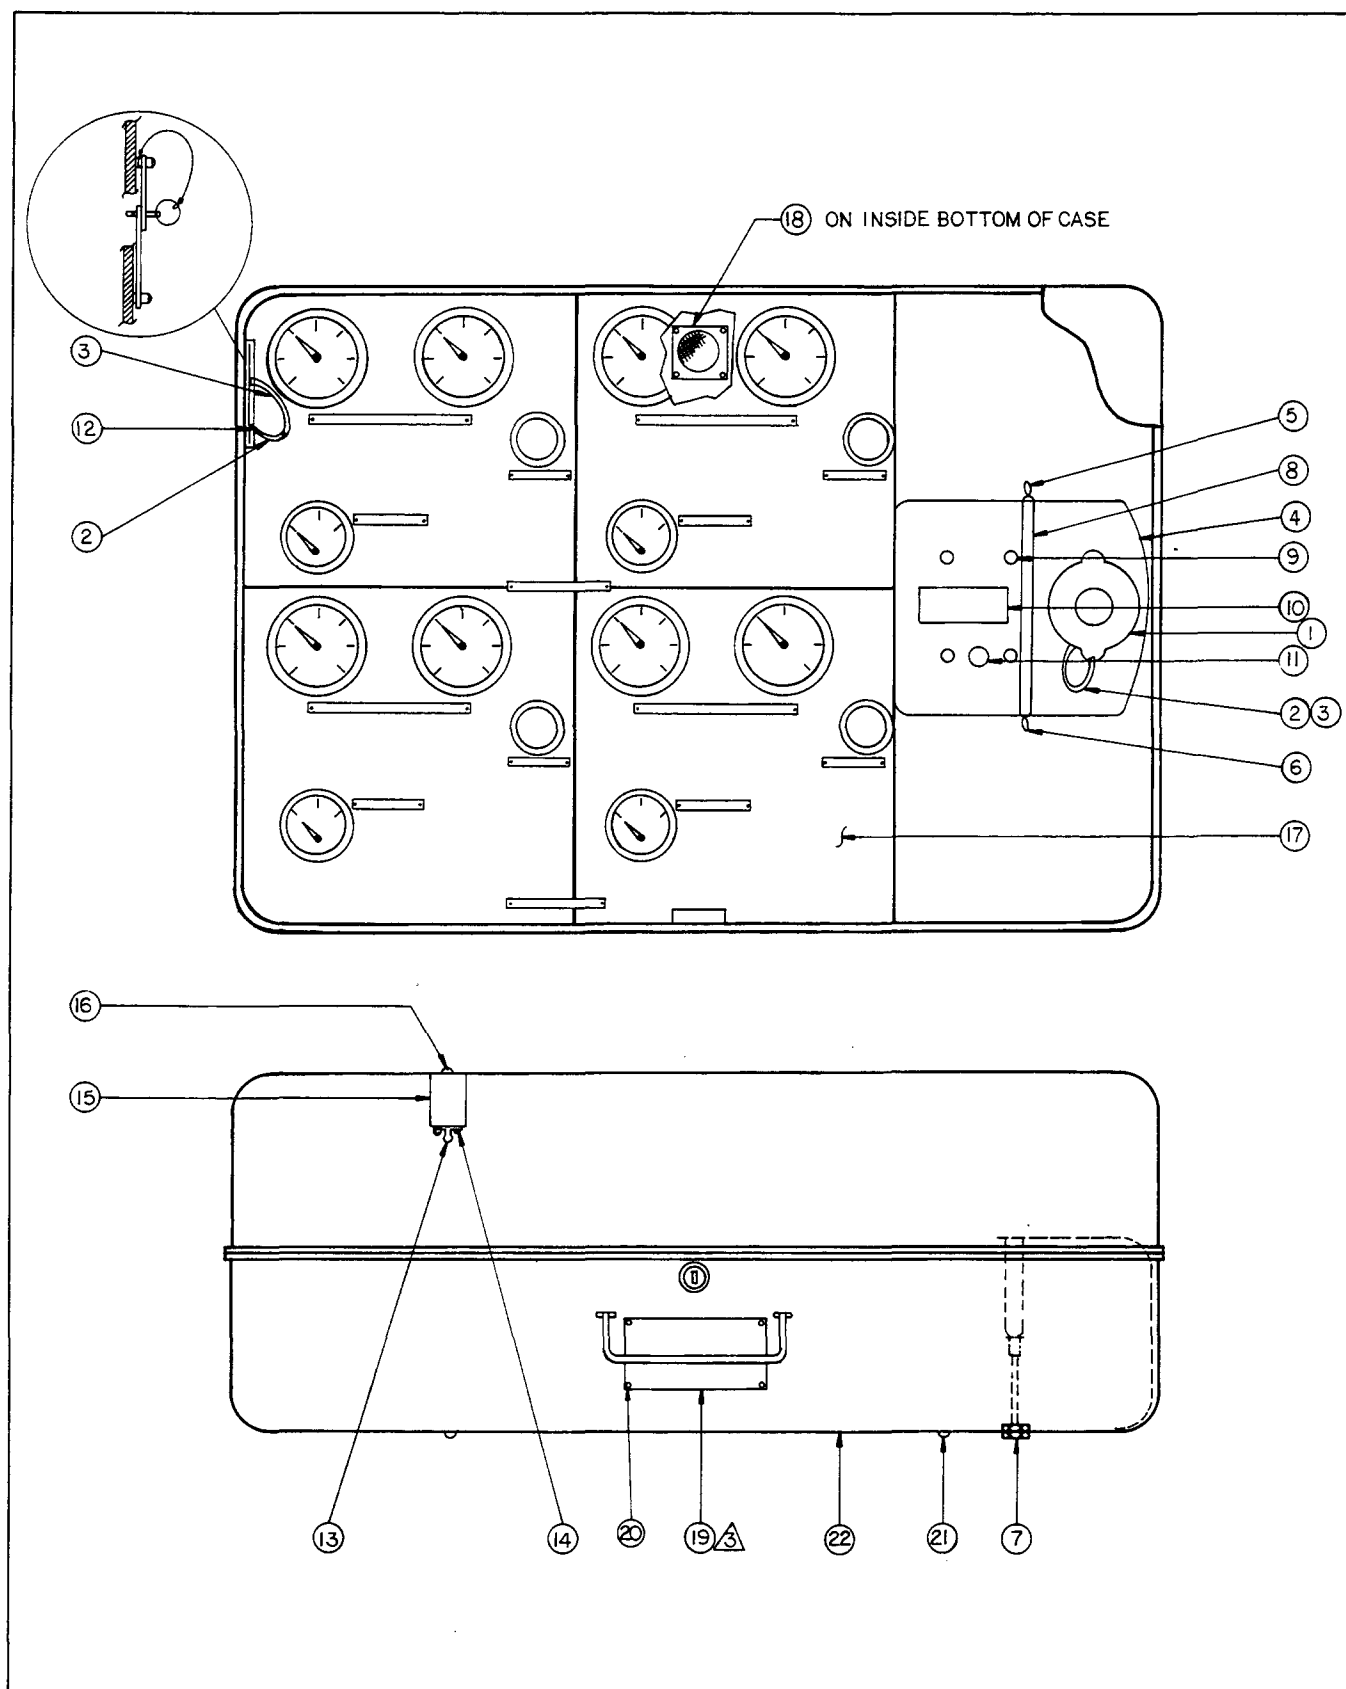

Figure 4-3. Brake Pressure Test Set
- c. Release toggle clamps (13, Figure 4-3) on bracket (15) and remove hose ends and adapter assemblies.
e. Store the hoses in the case and secure QD couplings on bracket (15, Figure 4-3) with toggle clamps (13, Figure 4-3) in the case lid. Thread adapter fittings into storage bracket.
f. Recheck that all bleed valves are closed. Pull tube ends from waste tank ports, empty and reinstall waste tank (4, Figure 4-3). Replace cap (1, Figure 4-3) on tank and insert five drain hoses into holes provided on waste tank.
g. Release ring grip pin (12, Figure 4-3) and close lid while ensuring that the hoses do not interfere with closing.